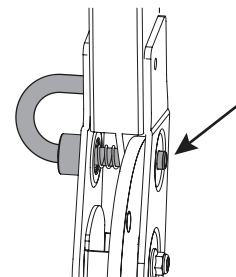

Figure 6
**NOTE:** See properly seated (fully engaged) ROPS pin in Figure 6.